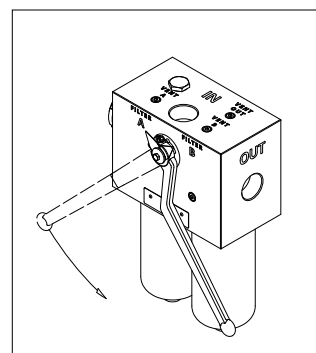

fig. 6
- (Fig. 6) Turn the switching lever through 90 degrees to start the NEW SIDE and release the WASTE SIDE